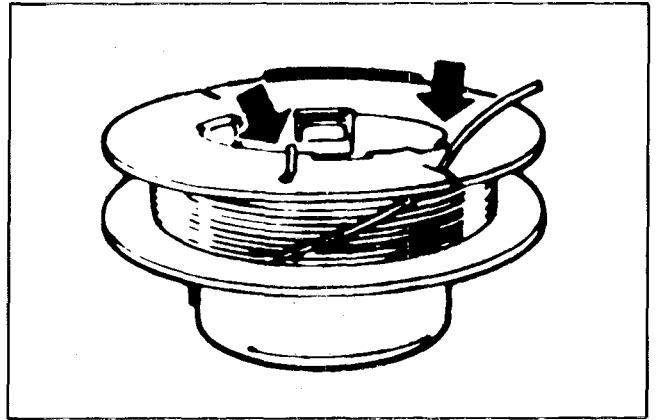

Figure 156
1. To wind replacement line on the spool, first hook one end of the line into the keyhole slot in the top flange of the spool. See Fig. 156.